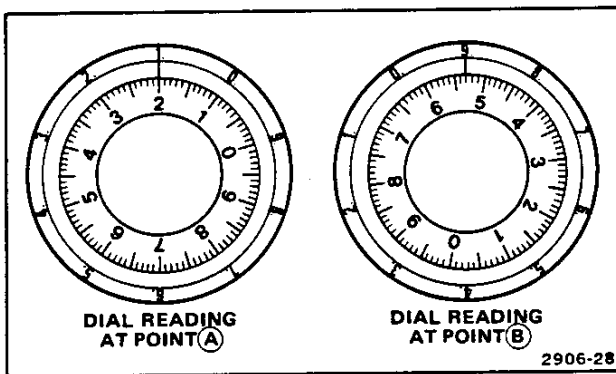

Figure 23. B DELAY TIME POSITION control settings.
**EXAMPLE:** With the A SEC/DIV switch set to 0.2 ms, the first B DELAY TIME POSITION dial setting is 1.20 and the second B DELAY TIME POSITION dial setting is 9.53 (see Figure 23).